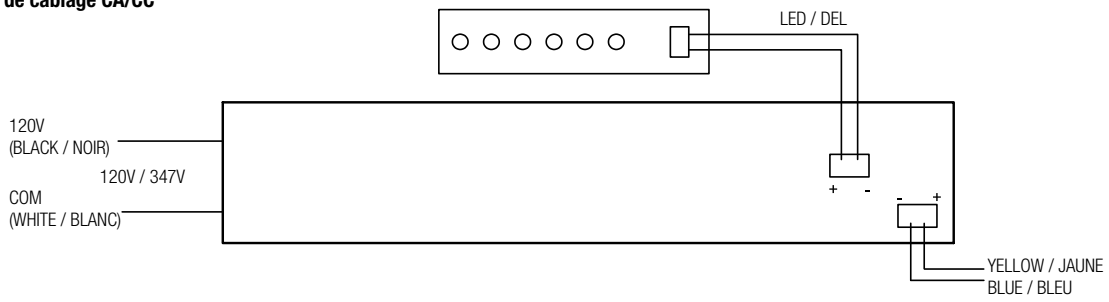

Fig. 6 Wiring diagram Self-powered
6. SELF-POWERED: Plug battery connectors into the matching battery pins on LED circuit board. (Fig. 6).